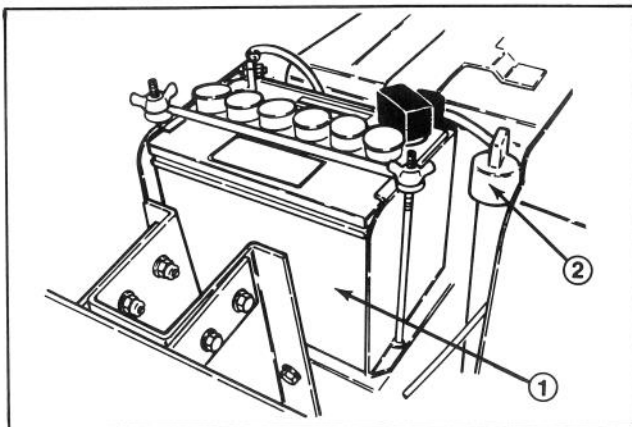

Figure 19
ACTIVATE AND CHARGE BATTERY (Fig. 19)
6. Install the positive cable (rubber boot over end) to the positive (+) terminal and the negative cable (black) to the negative (—) terminal of the battery and secure with capscrews and nuts. Slide the rubber boot over the positive terminal to prevent possible short-out from occurring (Fig. 19).
CHECK CRANKCASE OIL (Fig. 19)